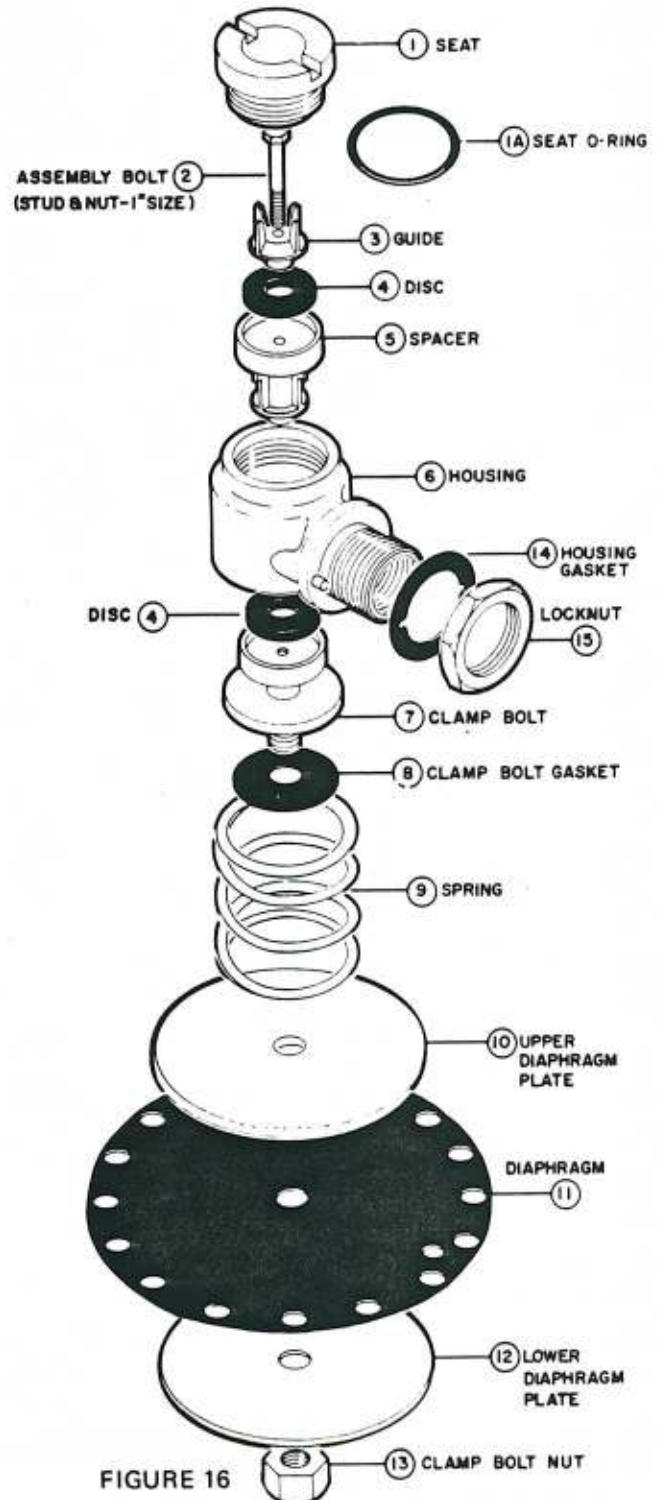

FIGURE 16
F. REPAIR OF RELIEF VALVES – 1" – 6" SIZES (see Fig. 16 and 5).
- b. Separate diaphragm (11) from body. (Use knife blade to separate it if it adheres).
- c. Remove relief valve lock nut (15).